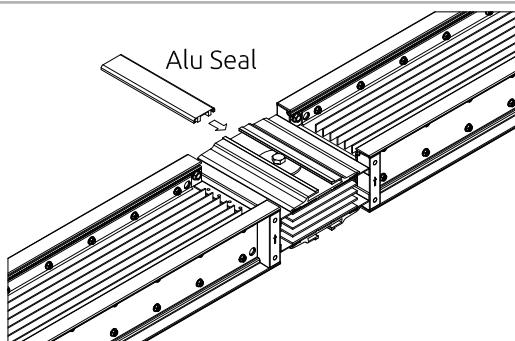

Figure 7.3
5. Install the alu seal as shown in Figure 7.3.